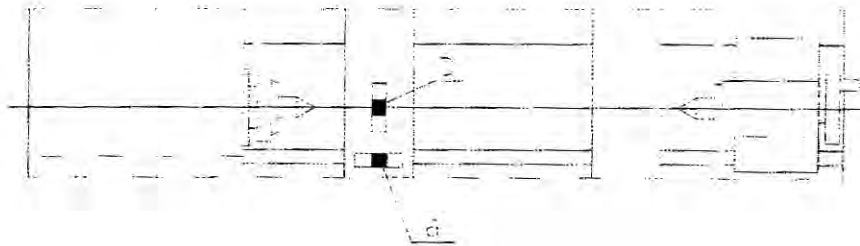

Fig. 4 Leveling of the machine
4.6 Leveling of the machine (See Fig 4)
are at the same level. It is also necessary to rectify the distortion of the bed. So the level gage should be placed as shown in Fig 4. Take the reading in one direction every 250mm. The max. reading should not exceed ± 3 scales with the accuracy of the level gage being 0.02/1000 per scale. At cross position the reading should not exceed 2 scales.